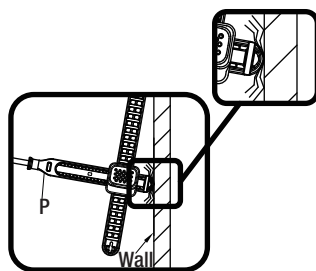

Fig 1
- If the horizontal rod (P) is too long, as shown in Fig 1, the length can be adjusted.
- Remove the clip (T) from the horizontal rod (P). Slide the plastic portion of the rod to adjust to the desired length. The excess length (1) can be removed by snapping off with pliers at the perforated segment, or cut off with a saw.